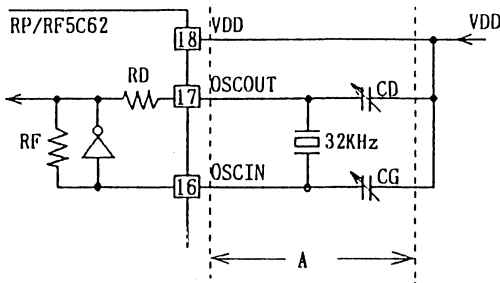

Figure 1
The oscillation circuit for 5C62 can be made up from a 32 kHz crystal oscillator and two capacitors externally attached as shown in Figure 1. The 5C62 has a feedback resistor (RF), a stabilizing resistor (RD), and an inverter built in.
- DO NOT route a signal line or power line near the oscillator (especially near segment A in Figure 1).